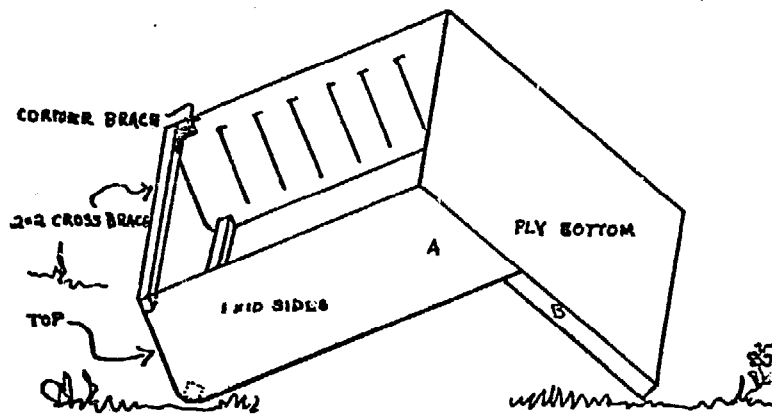

Figure 5
- 6: BRACING:** Attach 2 x 2 cross braces, 46 1/2" long to top front and top back 1 x 10's with two 12-penny nails each end (or 2 1/2" wood screws). Front cross brace is in curve C, Figure 5. Screw on corner braces (Figure 5).